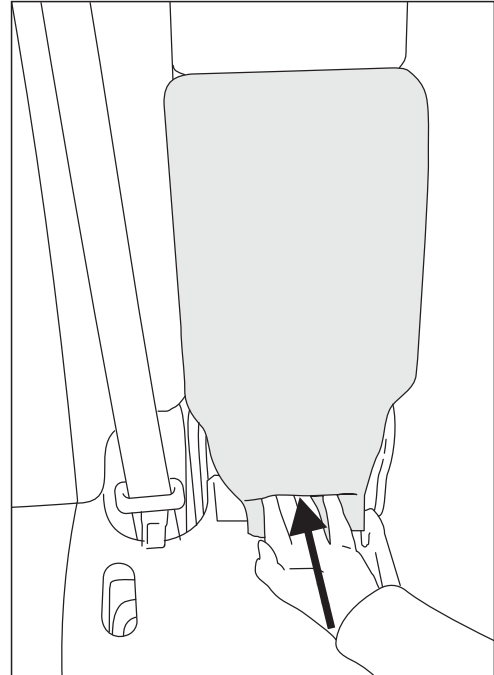

Fig. 9
9. Push bottom part of armrest cover through to the back (Fig. 9).